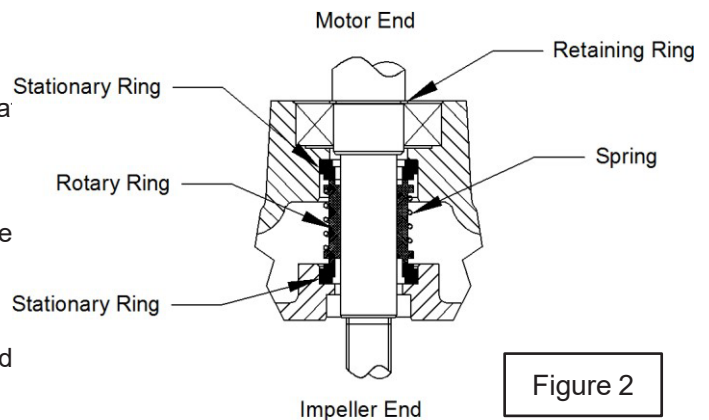

Figure 2
**Seal** - Handle seal parts with care. Remove seal (28) spring and rotating member from shaft. Examine all seal parts.
Inspect contact faces for signs of uneven wear tracks on stationary, chips and scratches on either seal face. **DO NOT** interchange seal components, replace the entire shaft seal (28). (See Figure 2)
**Power Cable**-Remove pipe plug (40) and drain oil if not already done so. Position pump upright using blocks or pvc pipe to avoid resting pump on the shaft. Remove cap screws (2) and power core plate (3) from cable assembly (1) and remove cable assemble (1) by pulling straight up.
Make sure spring is seated in retaining ring and spring is lined up on rotating member and not cocked or resting on bellows tail. (See Figure 2)